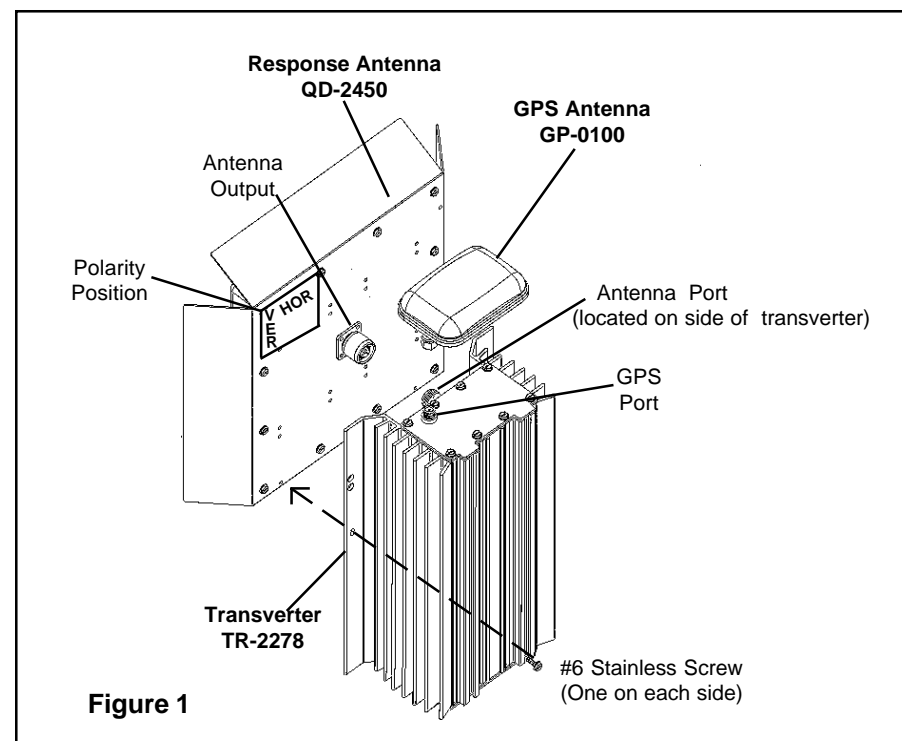

Figure 1
1. Determine the polarity of the antenna. (See Figure 1.)
2. Connect the QD-2450 antenna output to the antenna port on the side of the Transverter. (See Figure 1.)
3. Secure the transverter and antenna connection with a #6 stainless screw on each side of the Transverter. (See Figure 1.)
4. Connect the GPS Antenna to the GPS port on the Transverter. (See Figure 1.)
5. Re-check the dipole feed assembly for the proper polarity. (See Figures 1 & 2).
Refer to (figure 1) for proper feed alignment.
3. Determine the polarity of the antenna. (See Figures 1 & 2).
1. Place the sub-reflector on the front of the feed and secure with the #6 x 1/2" stainless screw. (See Figure 1).